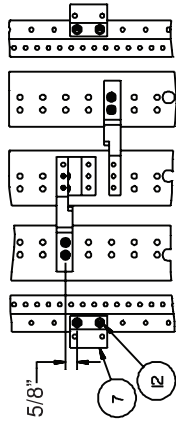

Figure 5
6. Refer to Figure 5: Mount the QR mounting brackets (Item 7) next. Locate a 0.228" diameter hole on the left Z-rail 5/8" below the mounting screws of the A-phase strap. Insert one 1/4"-20 x 3/8" screw (Item 12) through the 0.312" diameter hole in the QR mounting bracket and then into the 0.228" diameter hole in the Z-rail and tighten. Repeat the same steps to install the second QR mounting bracket onto the right hand Z-rail directly across from the first one. Torque all screws as specified on the rear of the deadfront.